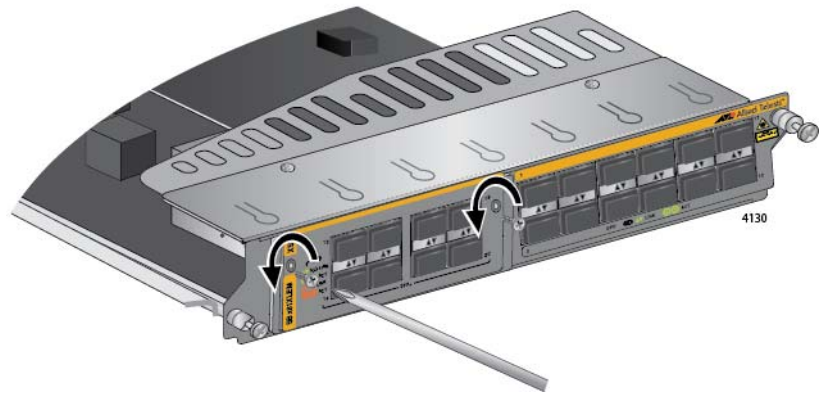

Figure 169. Removing the Screws from the Expansion Module
3. With a Phillips-head screwdriver, remove the two screws that secure the expansion module to the line card. Refer to Figure 169 on page 272.